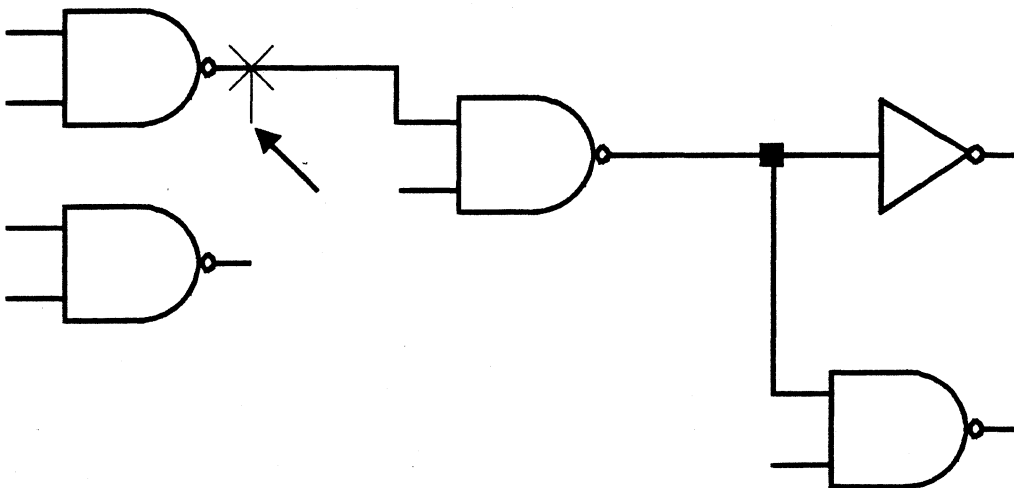

Figure 2.22
- 5) Move the cursor to stretch the line in either direction. The line represents the new path of the net. Stretch the line to the length you want. Press the left mouse button to mark the line's endpoint (figure 2.22). Press the right mouse button to "unmark" the endpoint, and adjust the length of the line.